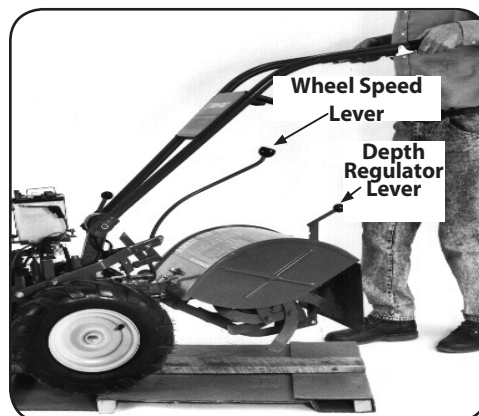

Figure 3-2
2. Set the Wheel Speed Lever to the Freewheel position. To do this, move the lever approximately halfway between the Fast and Slow settings while you rock the tiller forward and backward until the wheels move freely. See Figure 3-2.
1. Set the Depth Regulator Lever to the "TRAVEL" position. Do this by lifting the tiller by the handlebars, then pulling straight back on the lever and sliding down to the highest notched setting. See Figure 3-2.